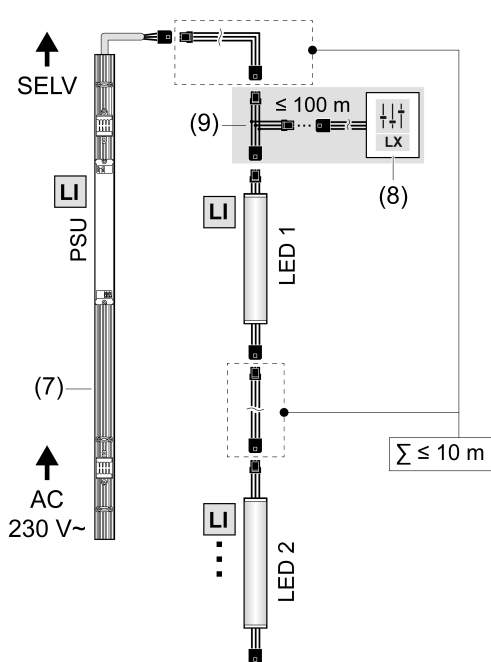

Figure 4: Connection diagram
- Link the light inserts together according to the connection diagram and connect them with a suitable operating device (7) (Figure 4).
- Connect the LEDTRIX data encoder (8) with the help of a LEDTRIX separating filter (9).